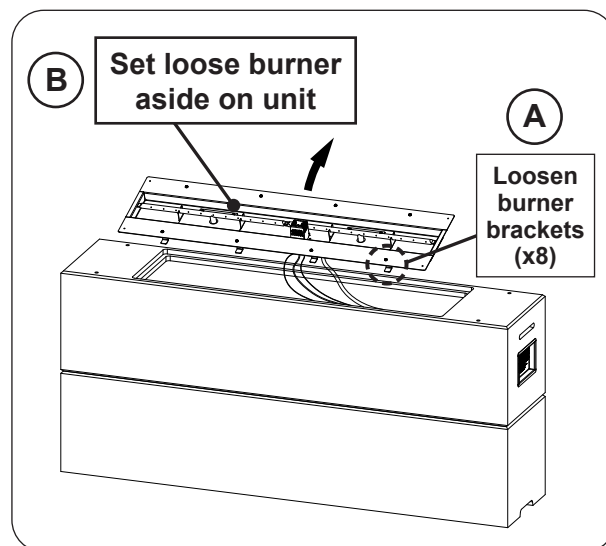

Fig. 27-3 Gain access to interior of unit
1. Use a $\frac{5}{16}$ " nut driver to loosen the 8 screws found on the burner assembly (see Fig. 27-3, A).
2. Carefully lift out the burner just enough to set it off to the side (see Fig. 27-3, B).